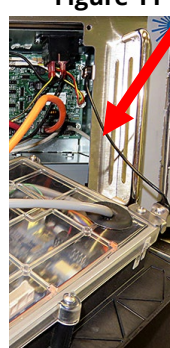

Figure 14
7. Lower the controller and rest it on the bottom of the control box (see Figure 14). The black tether on the right will support the controller.